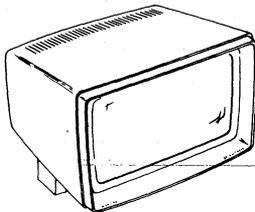

Fig. 1—DATASPEED 40 Display Monitor
1.01 This section provides the adjustment procedures for the DATASPEED 40 display monitor (40MN101 and 40MN201) (Fig. 1).